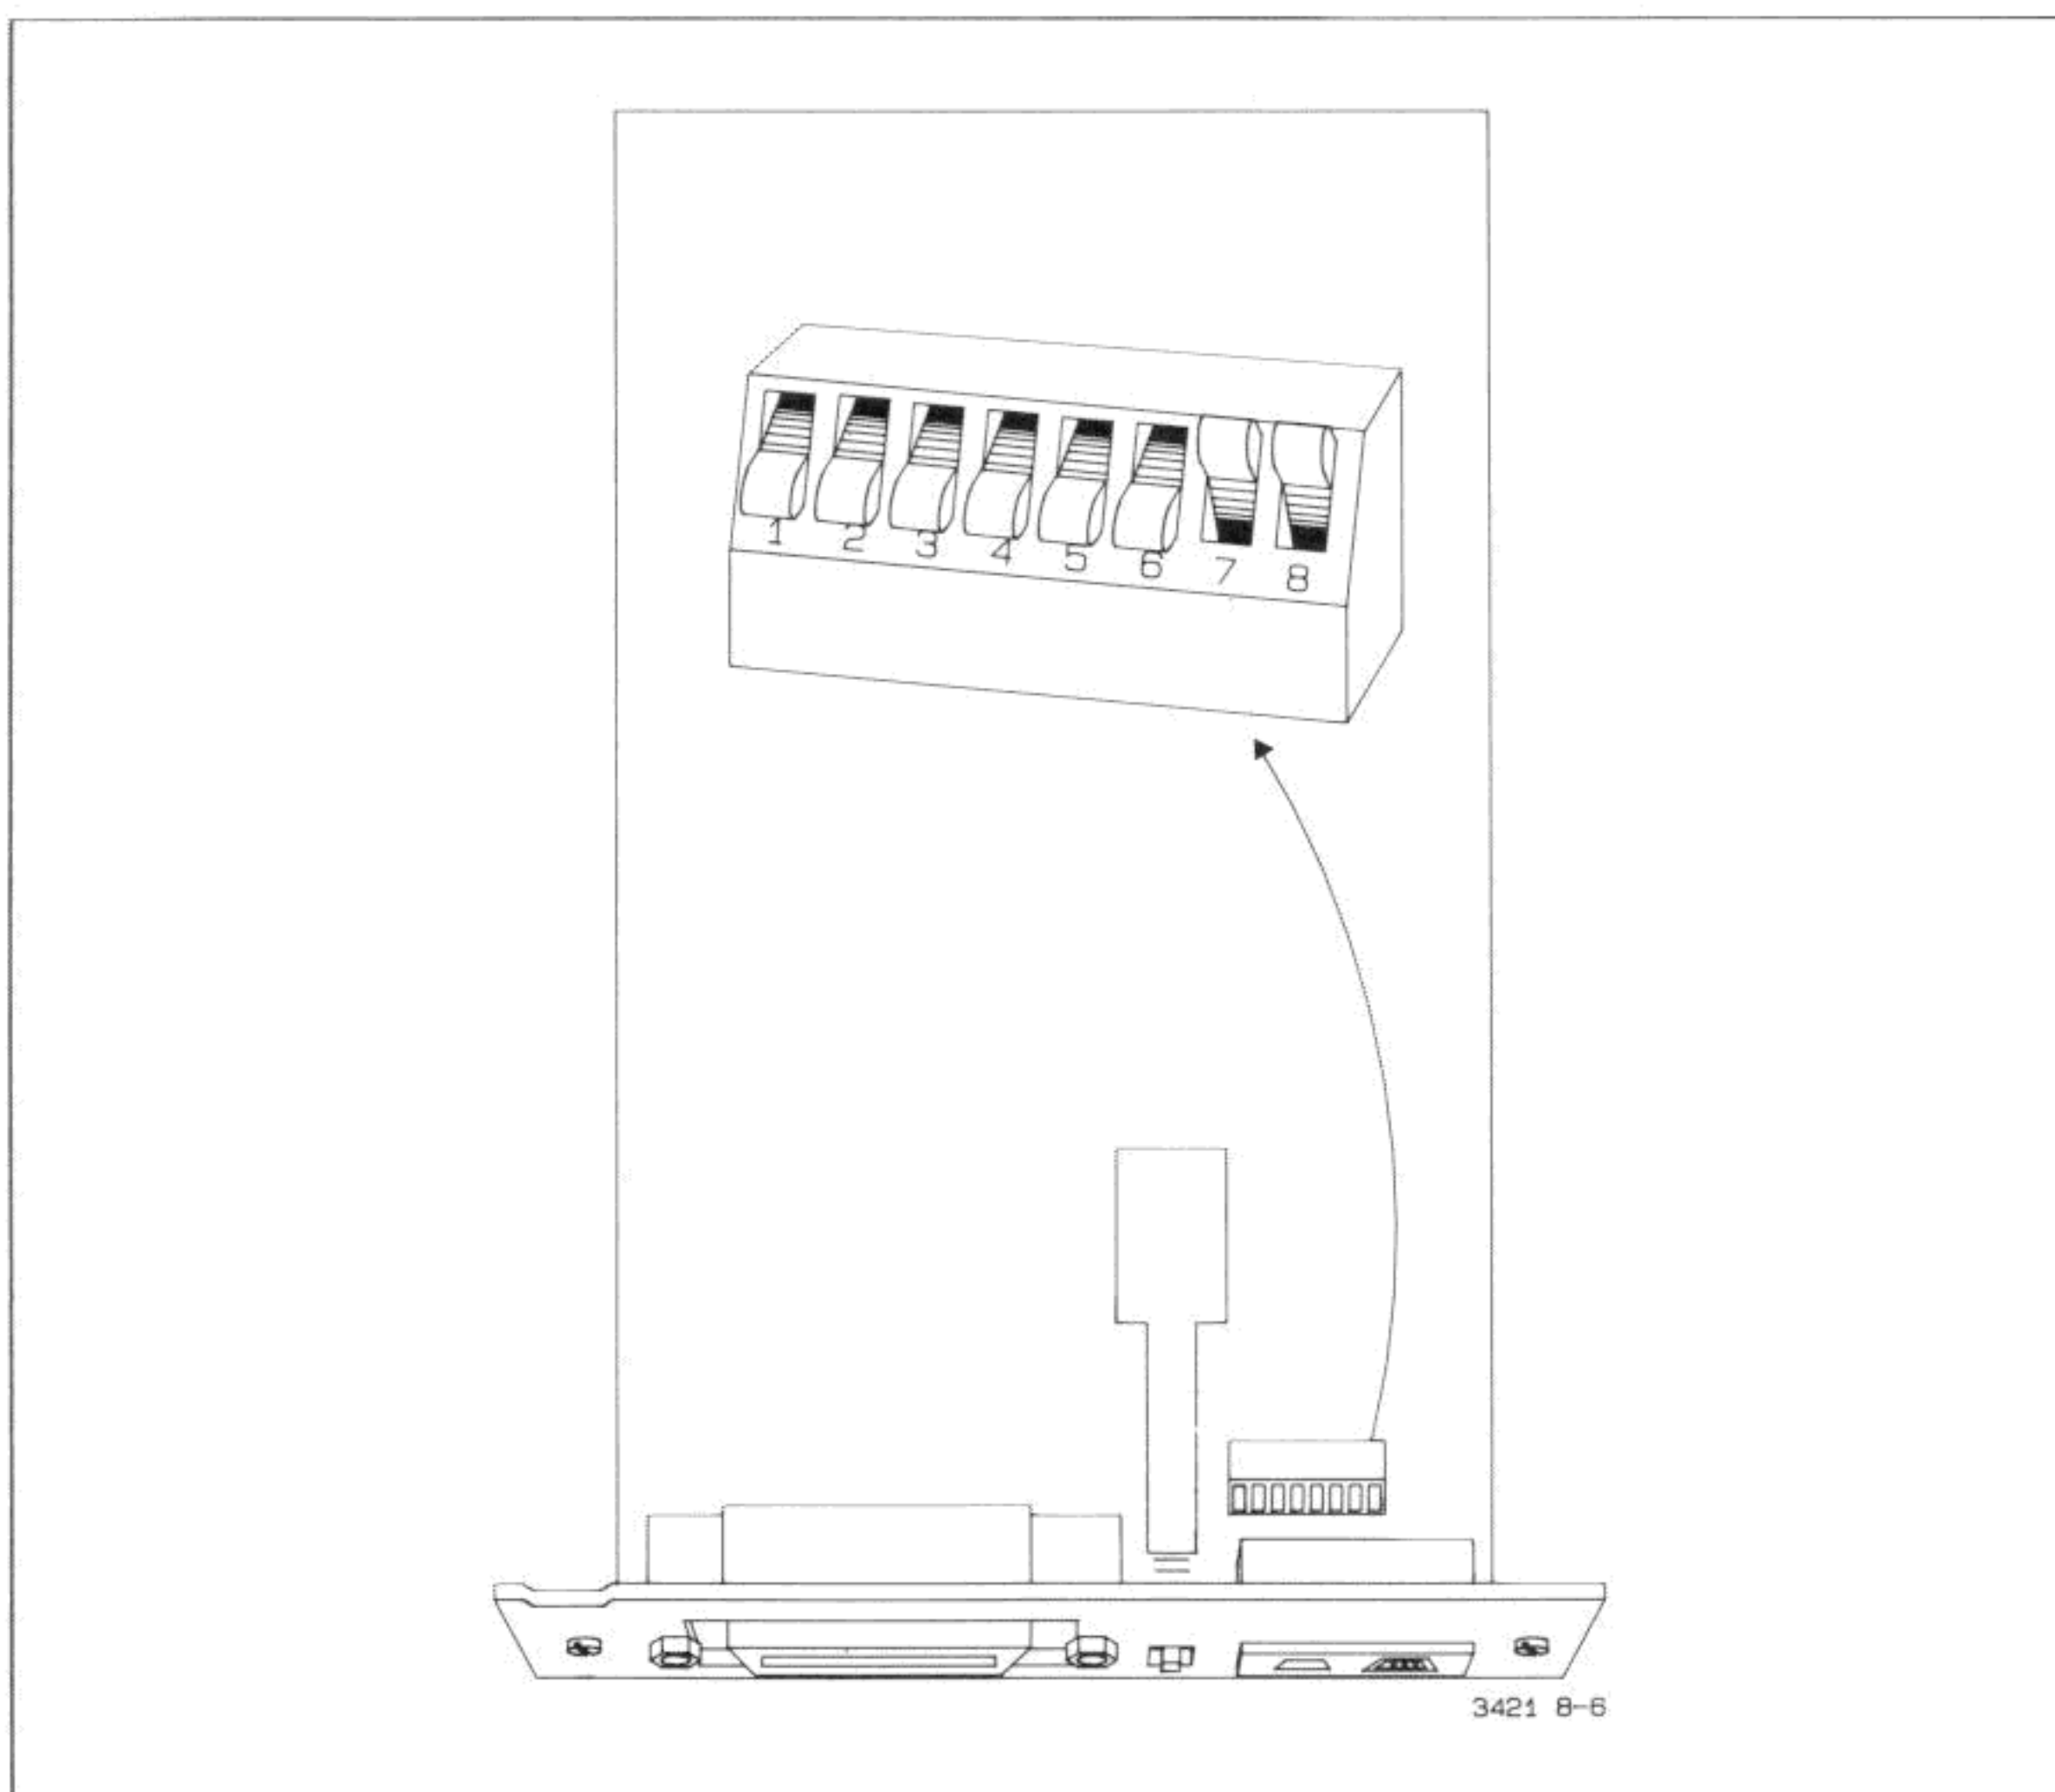

Figure 4-8-6. S802 Switch Settings for SA Test #1
- b. Refer to Figure 4-8-6 and set the switch segment of S802 as follows: